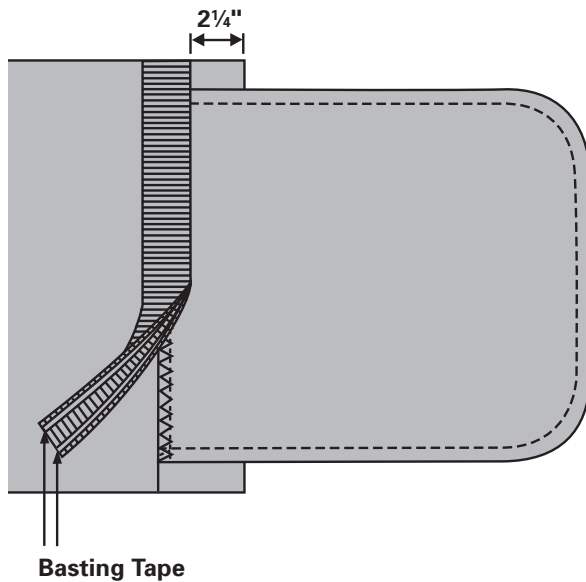

Fig. 7-4
5. Apply basting tape to both long edges of the ribbon. Remove the paper backing and adhere the ribbon across the bag, centering it over the marked line and the lower edge of the flap. Edgestitch both edges of the ribbon in place. (Fig. 7-4)